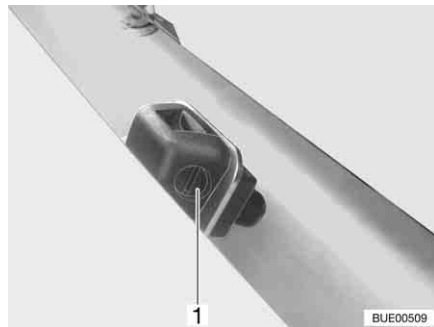

Fig. 28 Washer nozzle
- Use a suitable screwdriver to turn the adjusting screw (Fig. 28,1) until you reach the desired position.